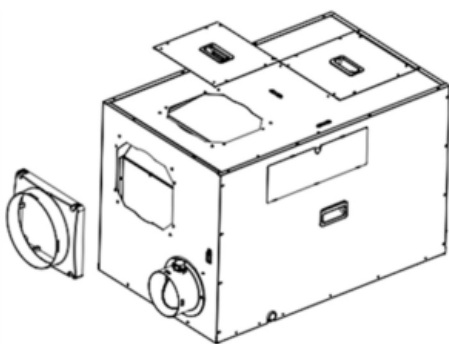

Figure 9
- To move the return side (inlet) duct, use a Phillips head screw driver to remove the screws holding the duct adaptor to the dehumidifier housing (See Figure 9).